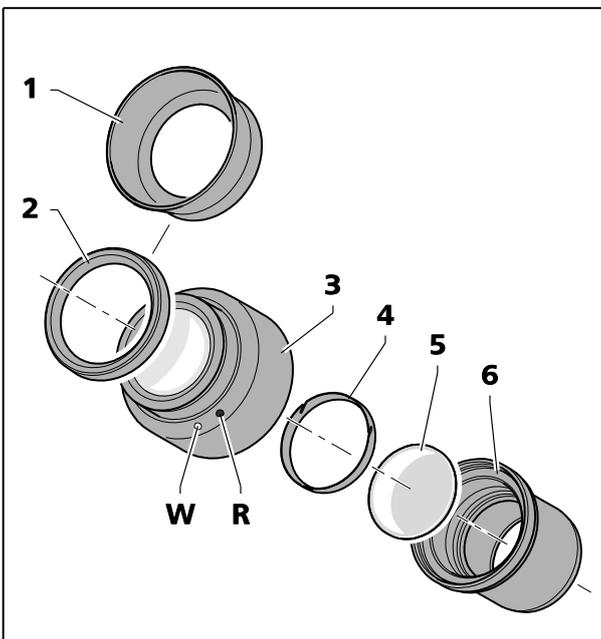

Fig. 16 Inserting the eyepiece plate
The eyepieces feature rubber protection rings for spectacles to avoid the spectacles being scratched. These rings may be replaced at choice by reversible eye cups (Fig. 16/1).
- To this effect remove the protection rings for spectacles (Fig. 16/2) from the eyepieces and position the eye cups (Fig. 16/1).
- Unscrew stop (Fig. 16/6) out of the eyepiece (Fig. 16/3).
- Pull locking ring (Fig. 16/4) out.
- Insert eyepiece plate (Fig. 16/5).
The slight image offset which is due to the additional glass distance is taken into account on the diopter scale by the zero position not being indicated by the white dot (Fig. 16/W), but by a red dot (Fig. 16/R).